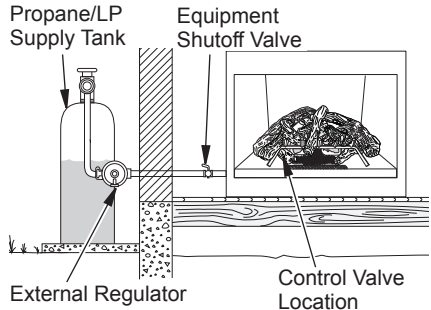

Figure 17 - Checking Gas Joints for Propane/LP Gas
3. Check all joints from gas meter to equipment shutoff valve for natural gas or propane/LP supply to equipment shutoff valve for propane/LP (see Figure 17 or 18). Apply a noncorrosive leak detection fluid to all joints. Bubbles forming show a leak.
4. Check all joints from equipment shutoff valve to control valve (see Figure 17 or 18, page 17). Apply a noncorrosive leak detection fluid to all joints. Bubbles forming show a leak.